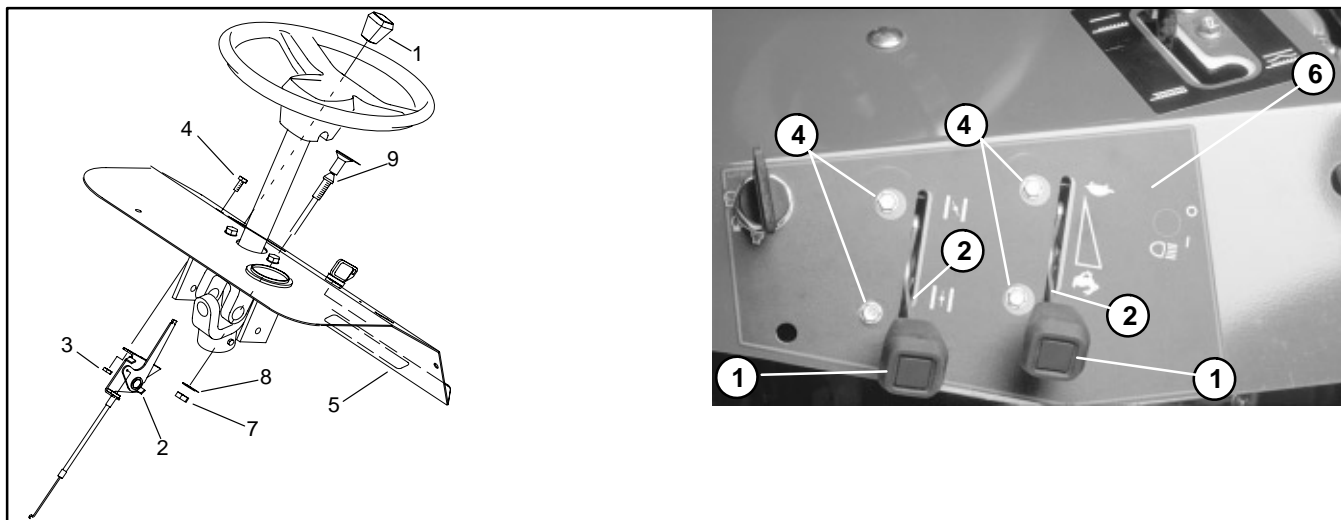

Figure 10
5. Remove throttle knob from the throttle control. Remove both lock nuts and cap screws securing the throttle control to the dash panel or right fender. Remove throttle control from the machine (Fig. 10).
1. Secure throttle control to the dash panel or right fender with both cap screws and lock nuts. Install throttle control knob to the throttle control lever (Fig. 10).
7. On the **SP 2020/3020** remove hex nut and lock washer securing the choke control to the dash panel. Pull choke control and cable from dash panel (Fig. 10).
8. On the **SP 5020**, remove choke knob from the choke control. Remove both lock nuts and cap screws securing the choke control to the right fender. Remove choke control from the machine (Fig. 10).
1. On the **SP 2020/3020** insert choke cable and control through the dash panel. Secure choke control to the panel with lock washer and hex nut (Fig. 10).
2. On the **SP 5020**, secure choke control to the dash panel or right fender with both cap screws and lock nuts. Install knob to the choke control lever (Fig. 10).